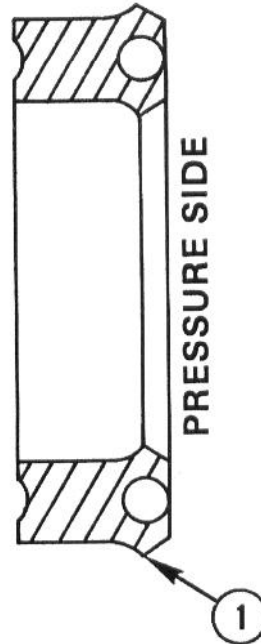

Fig. 47 — Lip Side of Typical Rod Seal (to be Directed Toward Pressure Side)
a. Install rod seal (see Fig. 47) into I.D. of bearing